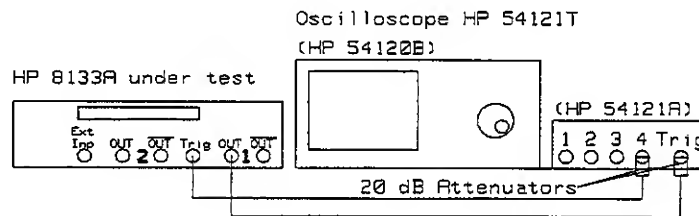

Figure 6-5. TRIGGER Transition Time Test Set-up
1. Connect the HP 8133A to the oscilloscope as shown in Figure 6-5.